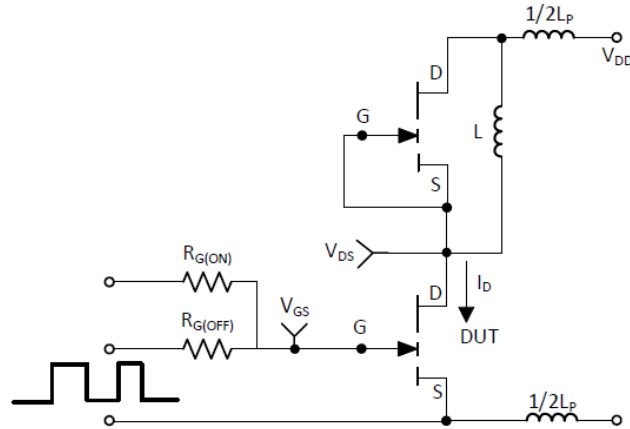

Figure 16: Switching Test Circuit
(5) See Figure 16 for switching test circuit diagram.